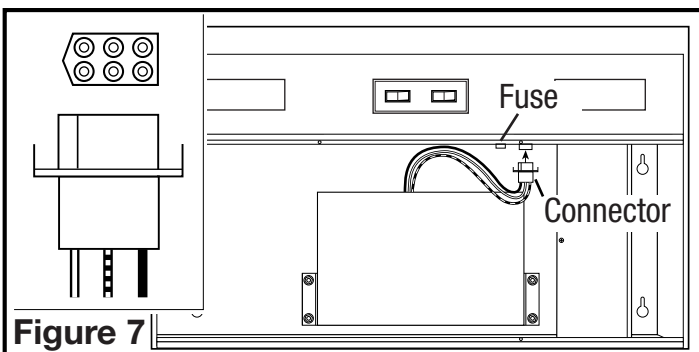

Figure 7
3. Plug the blower connector into the port on the front wall of the blower compartment. It will fit only one way (**Figure 7**).
1. To replace the fuse, turn the fuse cap located next to the wire connector counter clockwise and pull out. Replace with only a 125-Volt fuse, 3 Amp Max. Reinstall the fuse back into the hood (Figure 7).